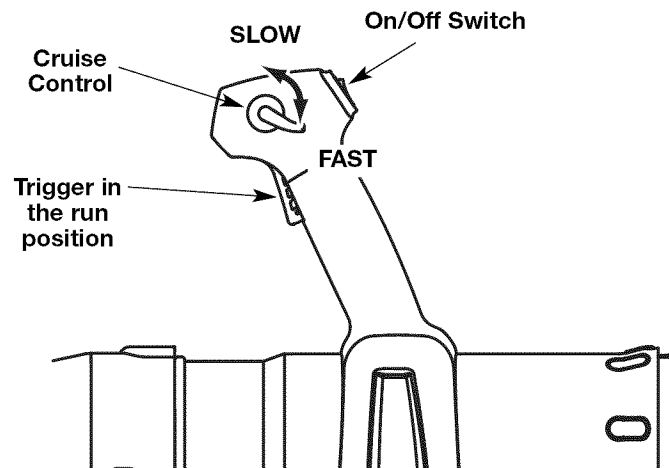

Fig. 12
- NOTE:** There is no need to turn the unit on. The On/Off Control is in the **ON (1)** position at all times (Fig. 12).
5. Press down the cruise control to lock the trigger into the fast position (Fig. 12).
1. Once the engine has started and warmed up, squeeze the trigger to accelerate the unit as needed (Fig. 12).
2. For longer periods of operation and to eliminate possible finger fatigue, move the cruise control toward the FAST position to incrementally increase or maintain the unit's engine speed (Fig. 12). When the cruise control is pressed, the trigger will recede into the handle.
3. To decrease engine speed, move the cruise control to the SLOW position and the trigger will return to idle position (Fig. 12).
2. Press and hold the On/Off Control switch in the **OFF (0)** position until the engine comes to a complete stop (Fig. 12).
- Use the cruise control (Fig. 12, A) to keep the trigger depressed while operating to make continuous operation easier.